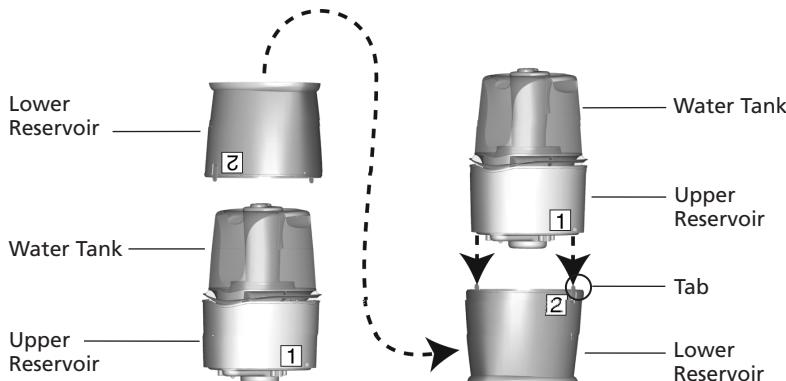

Figure 3
2. Select a location for your humidifier. The location should be flat, hard, water-resistant and at least six (6) inches away from walls and sources of heat.
3. Remove the Lower Reservoir (marked with the number 2) from the Water Tank and Upper Reservoir (marked with the number 1). See Figure 3.
5. Lift the Upper Reservoir (marked with the number 1) and Water Tank and place them on top of the Lower Reservoir (marked with the number 2) so that the two tabs in the Lower Reservoir snap into the Upper Reservoir. See Figure 3.